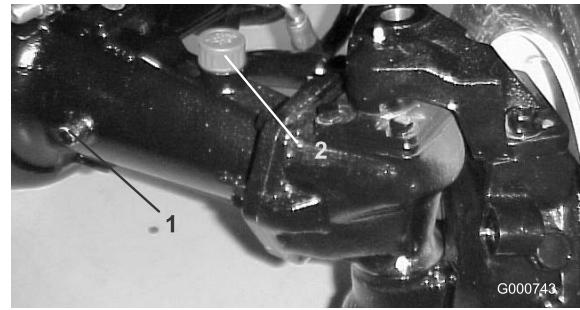

Figure 68
2. Remove a check plug (Figure 68) from one end of axle and make sure lubricant is up to bottom of hole. If level is low, remove the fill plug (Figure 68) and add enough lubricant to bring the level up to the bottom of the check plug holes.